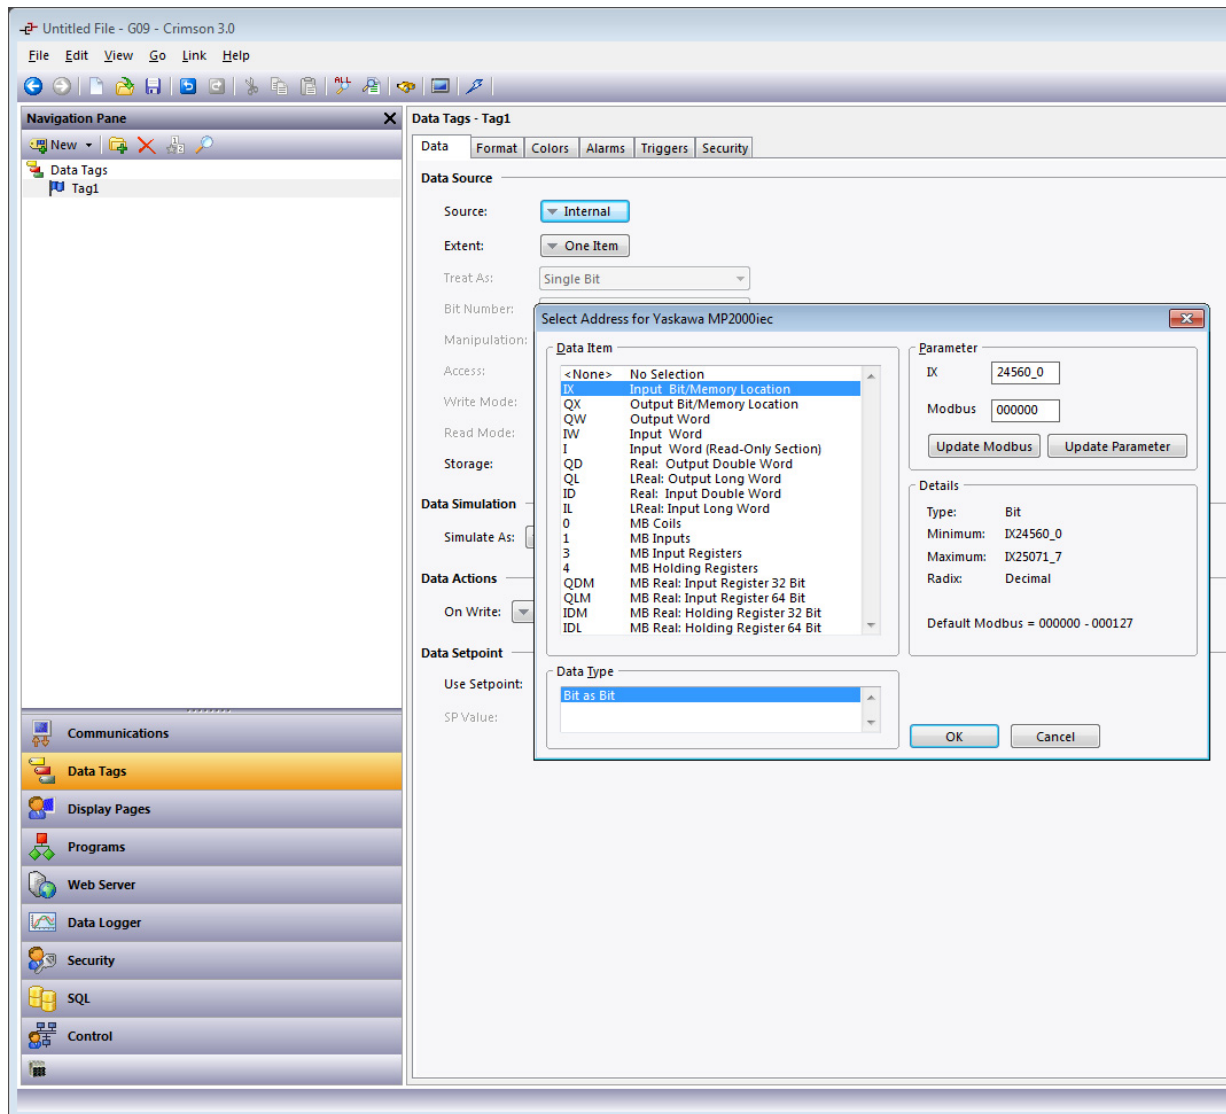

Figure 4.
8. Create a new Flag tag from the Navigation Pane, as shown in Figure 4.
9. Select the new tag, Tag1, and select the Data tab and change the Source from *Internal* to *MP1*. The parameters popup is displayed, as shown in Figure 4.